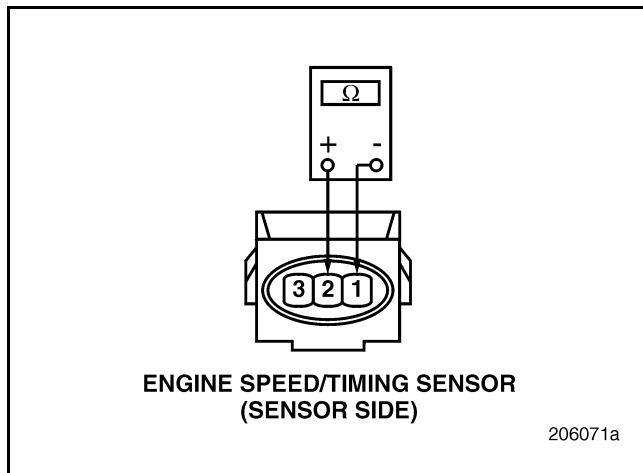

Figure 380
3. Measure the resistance between sensor terminals 1 and 2 (see Figure 380).